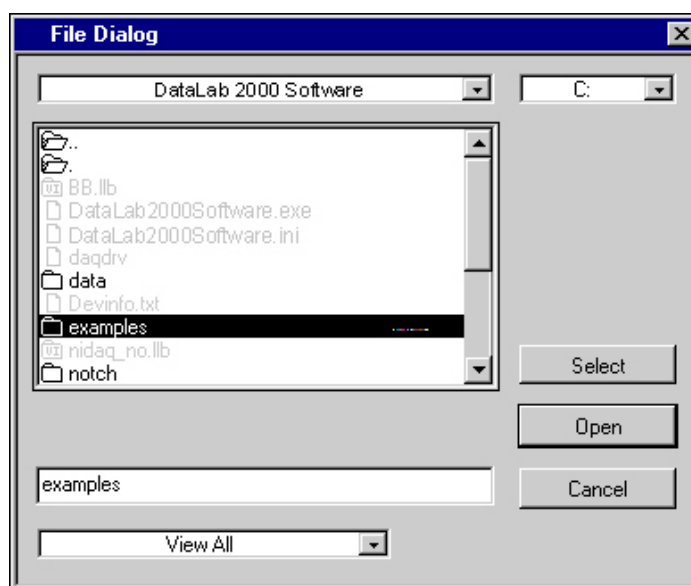

Figure B-13. Selecting the Examples Folder with the File Dialog Box
2. Select **File»Open** in the Analysis mode and use the **Browse** button to navigate to the `\datalab2000software\examples` directory. Highlight the examples directory and click on the **Select** button, shown in Figure B-13.